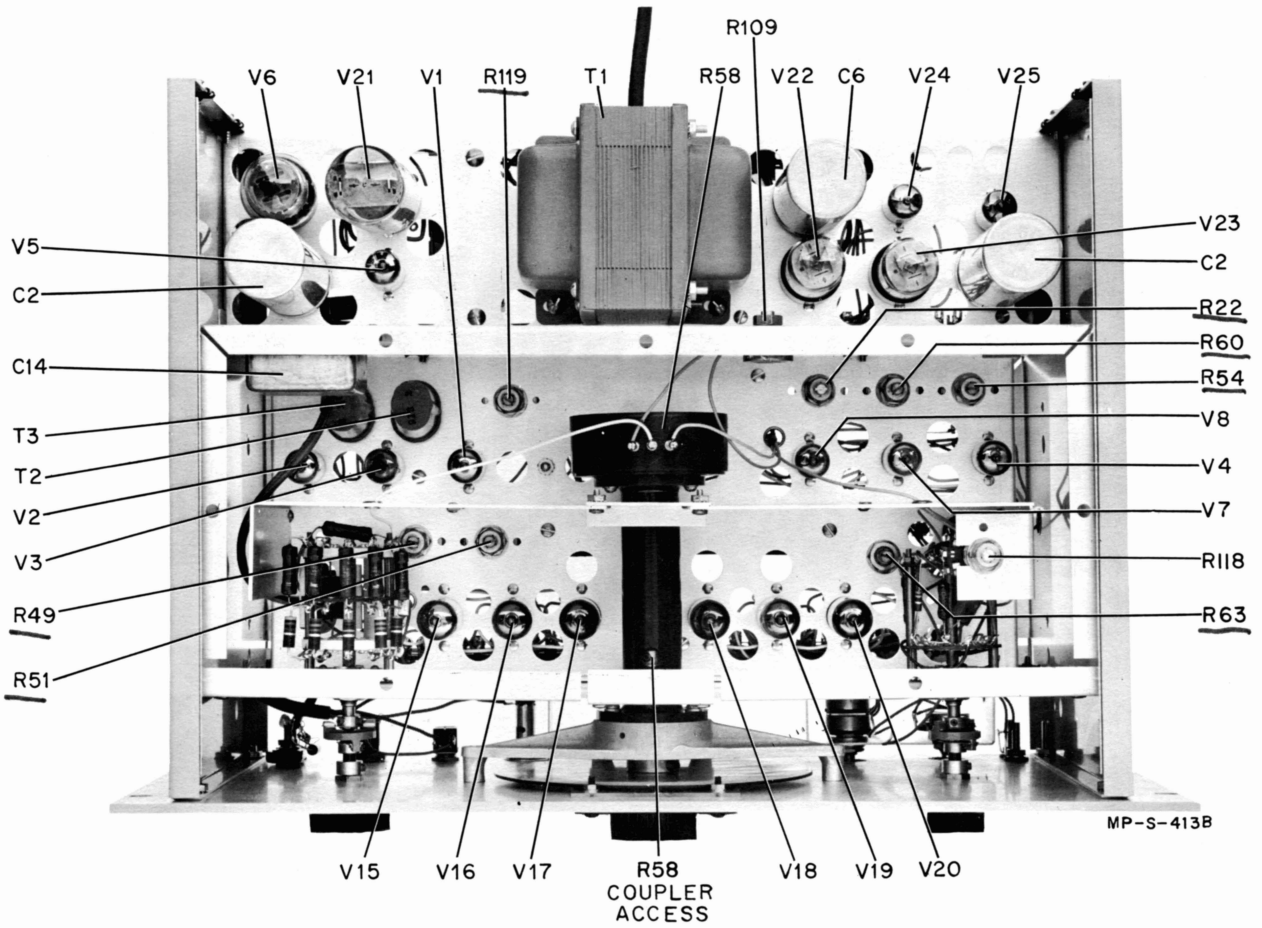

Figure 4-4. Model 202A Top View Cover Removed
- 6) The ratio obtained in step 5 must be 15 to 1. Adjust by loosening the coupler between the dial and potentiometer (R58) shafts. See Figure 4-4 for coupler access hole location. Rotate one shaft with respect to the other to obtain a period of 83.3 milliseconds with a dial reading of 12. Tighten both set screws in the coupler.